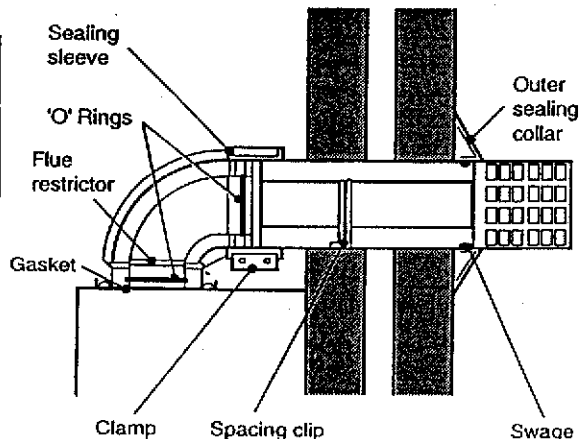

Fig. 11
- 11 Position the 'O' rings (supplied in the flue accessories pack) into the recesses at each end of the inner tube of the flue elbow. **Note: If the flue length is less than 1 m, fit the flue restrictor supplied into the inlet socket of the flue as shown in Fig. 11 - push the restrictor up into the socket as far as it will go.**